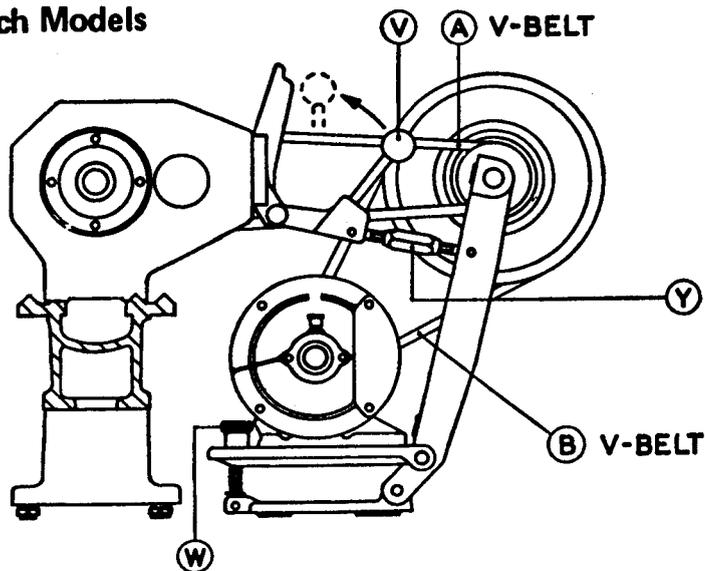

Fig. 18. Diagram of Bench Model Countershaft
The bench model drive unit as shown in Fig. 18, consists of a countershaft which pivots on a base fastened to the bench or cabinet top behind the headstock, and a motor platform which pivots on the countershaft. An adjustable belt tension lever is fixed between the countershaft and the headstock and when this lever is pulled towards the front of the machine, tension in both drive belts is released, enabling either belt to be changed from one position to another.
- 12. COUNTERSHAFT BEARINGS (Bench machines). Oil daily. See Fig. 18.